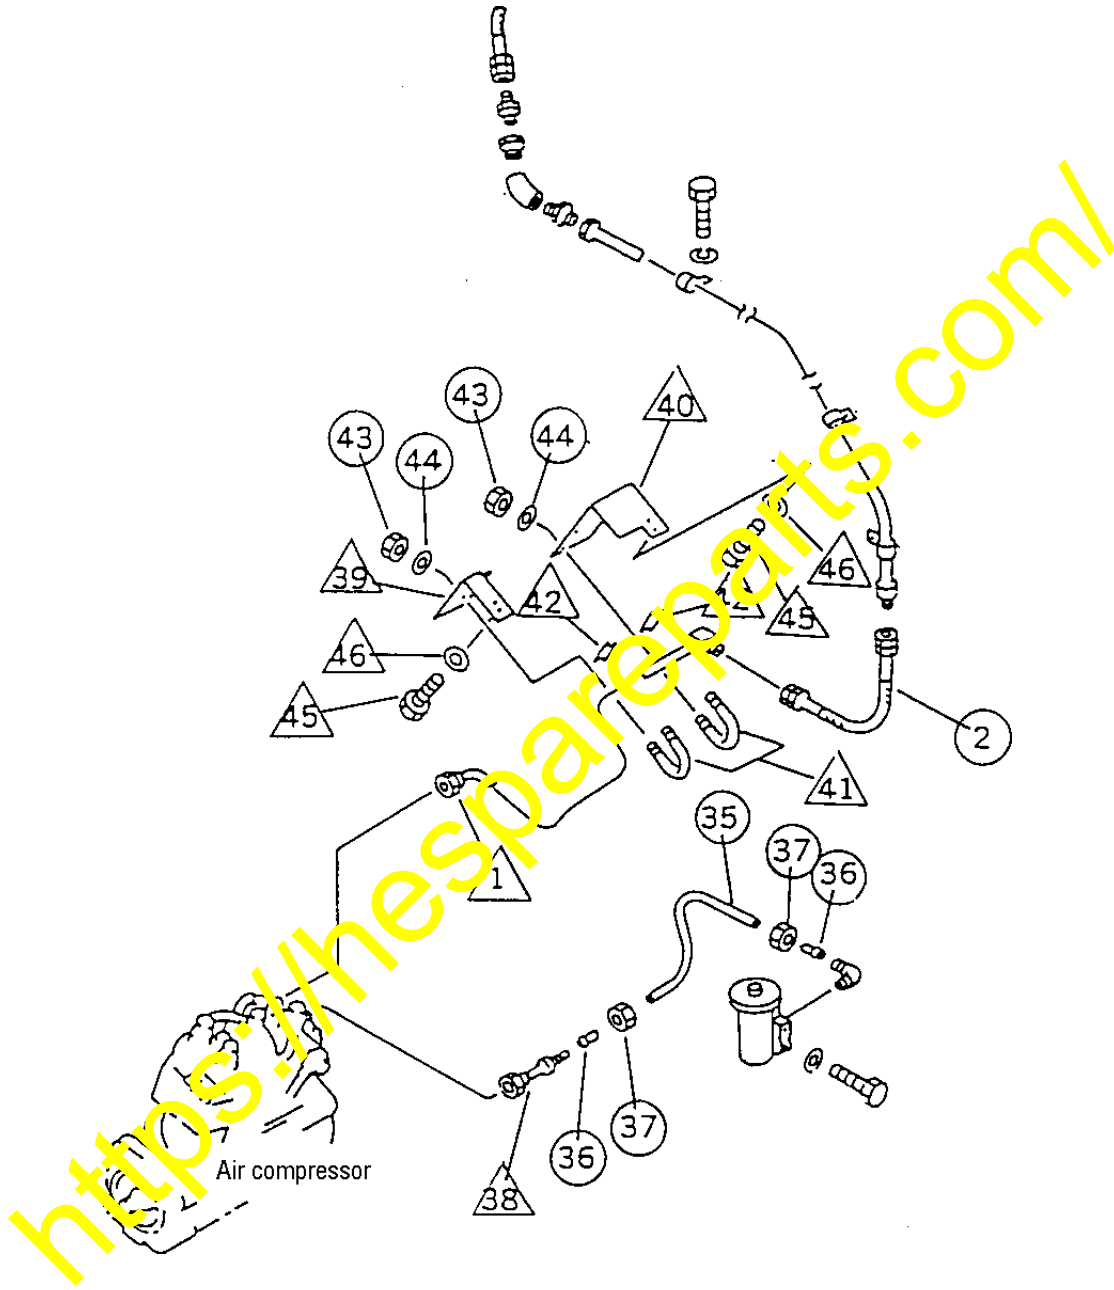

Fig. 23
- (1) Remove the existing air piping. (See Fig. 23)